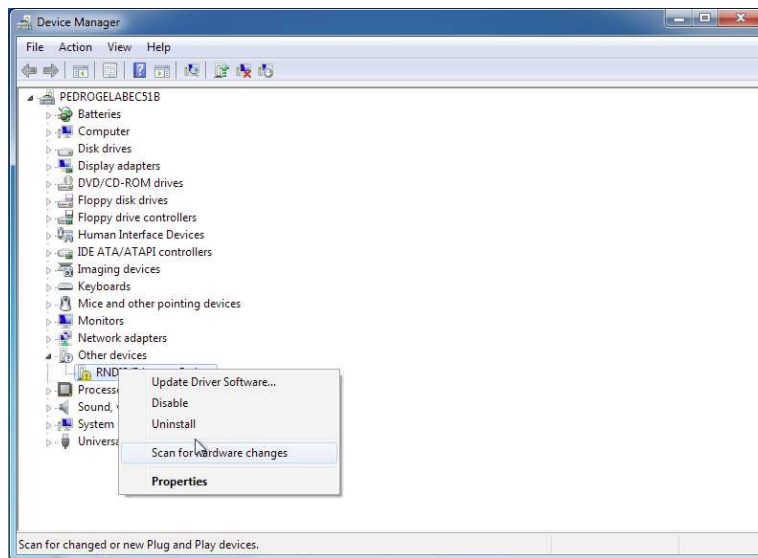

Figure 2-6. Windows 7 Device Manager Window
3. Expand Other Devices. Right-click on “RNDIS/Ethernet Gadget” and select “Update Driver Software.” See Figure 2-6.